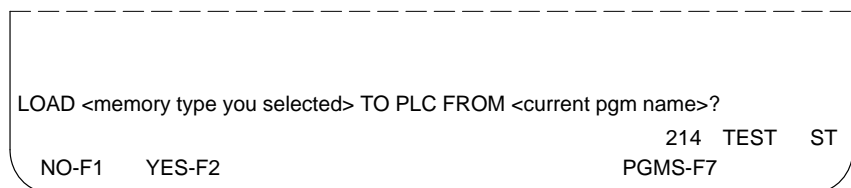

Figure 8-2 Load Memory Confirmation Screen
3. You receive the prompt shown in Figure 8-2. If you want the current program downloaded to PLC memory, press **YES-F2**.